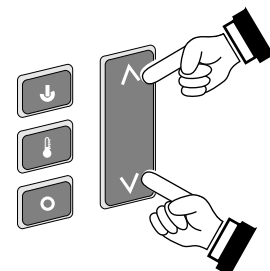

Figure 7
- STANDARD THERMOSTAT** - While in standard thermostat setting, the transmitter will turn the burner on and off to achieve the target temperature (see Figure 7 below). To adjust the target temperature, press the up and down buttons until a suitable temperature is achieved.